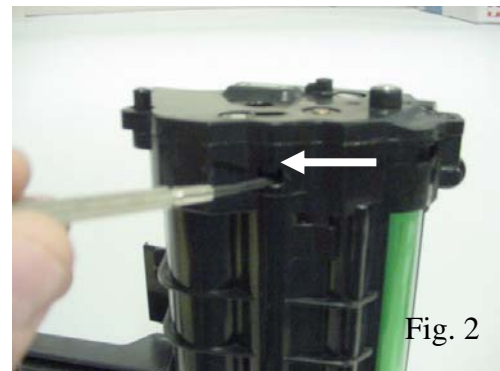

Fig. 2
2. Using a small flat screw driver, release the locking tab on the bottom side of the end cap (Fig. 2).